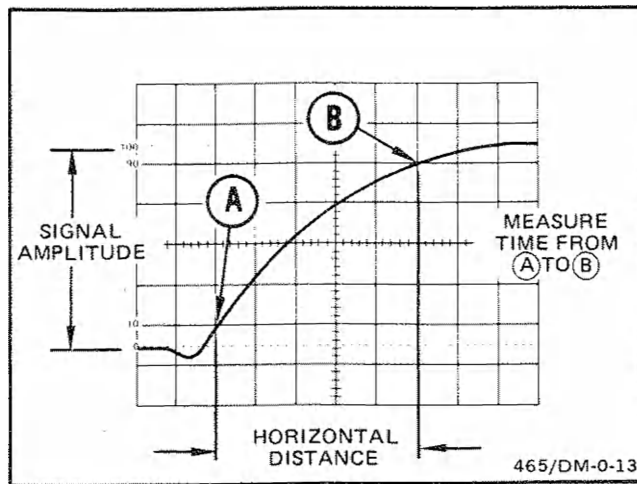

Figure 17. Rise time.
the 10% and 90% points on the leading edge of the waveform (see Figure 17). Fall time is measured between the 90% and 10% points on the trailing edge of the waveform.
of the waveform touches the 100% graticule line (see Figure 17).
7. Horizontally position the display so the 10% point on the waveform intersects the second vertical graticule line (see Figure 17, point A).
**EXAMPLE:** The horizontal distance between the 10% and 90% points is 5 divisions (see Figure 17), and the A SEC/DIV switch is set to  $1 \mu\text{s}/\text{division}$ . A magnification factor of 1 is used.